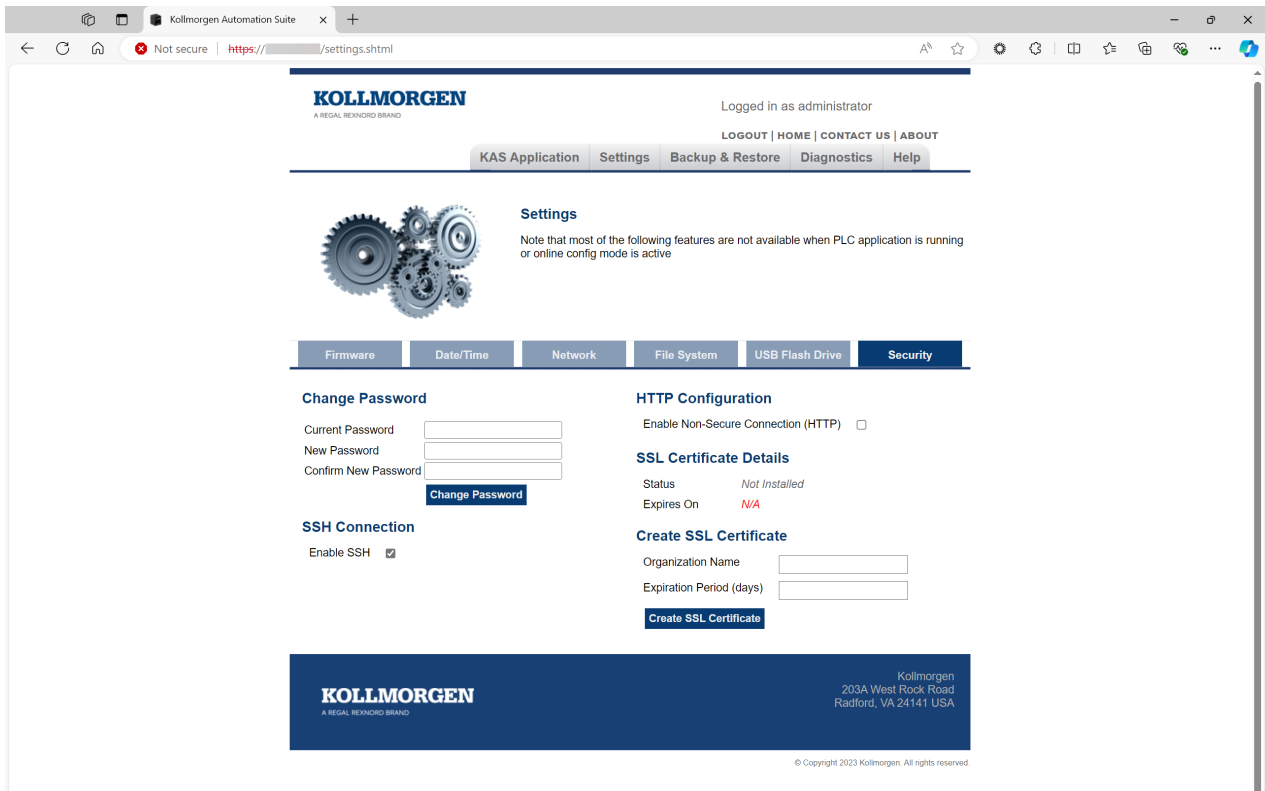

Figure 9-18: Security tab
7. Click the **Security** tab. (Figure 9-18)